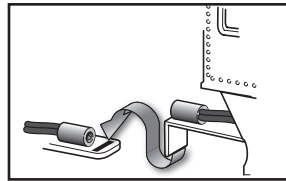

Figure 1. Drawbar connection
2. Place your locomotive and tender on the track and connect the drawbar as shown in Figure 1.
- 2. Place your locomotive and tender on the track and connect the drawbar as shown in Figure 1 on page 5.**
1. **With track power off, place your locomotive and tender on the track. Connect the drawbar as shown in Figure 1 on page 5.**